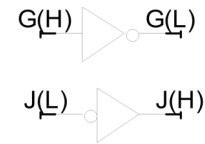

Figure 1: Use only four inputs. Create alternate activation-level inputs with level-shifters.
inputs. In order to directly compare the outputs, use the four inputs for **either** W or X and **create the other necessary inputs (with opposite activation-levels) using level-shifters** as shown in Figure 1. For example, using the signal names in Figure 1, you **cannot** have a switch for G(H) **and another** switch from G(L); you can have one switch for either G(H) **or** G(L), and you will get the other signal with a level shifter.
1. Make a new project and filename Lab1d. Design mixed-logic implementations of the equations for Y and Z in equations (4) and (5) below. The goal in this part is to choose input and output activation-levels to minimize the **total number of gates and chips** used in the overall design of these two circuits. Choose only one of the two possible activation-levels for each of the inputs, i.e., A(H), B(L), etc. [but not A(H) for one and A(L) for the other]. If you need both A(H) and A(L), that will cost one gate, a level-shifter or its equivalent, as shown in Figure 1. Create the design by hand and then do it with Quartus in a single file. Do **not** simplify. (Hint: No more than two chips and seven gates are needed.)